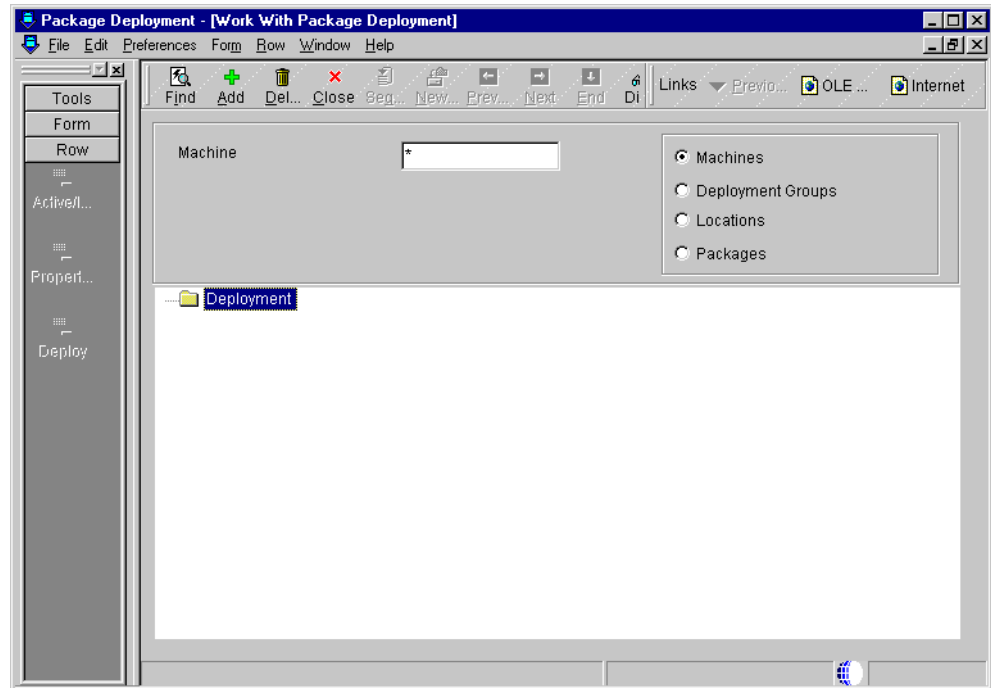

Figure 161. Work With Package Deployment
1. From the Package and Deployment Tools menu (GH9083), choose **Package Deployment** (P9631). The Work with Package Deployment form appears (Figure 161).